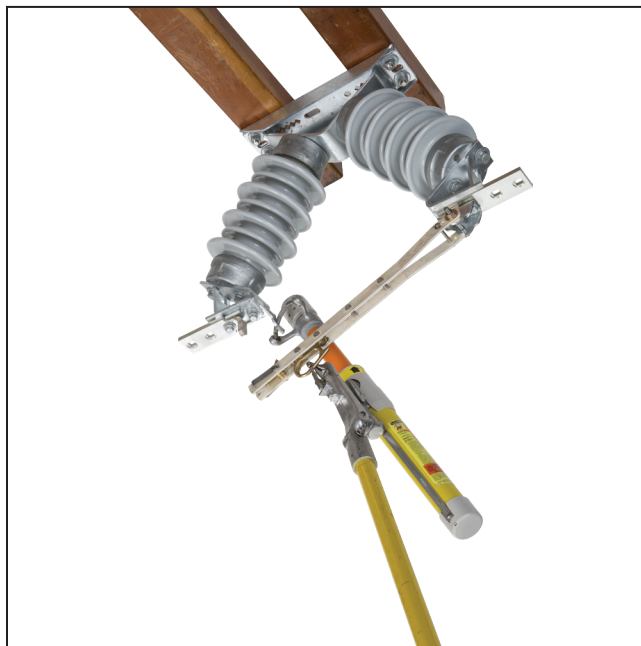

Figure 5. A Loadbuster tool in the Tripped position.
- STEP 3.** *To open the circuit:* Operate the Loadbuster tool with a firm, steady pull until it is extended to its maximum length. See Figure 5. Avoid jerking and hesitation. The resetting latch will keep it open. Generally, there will be no indication of circuit interruption. The only sound will be that of the Loadbuster tool tripping.